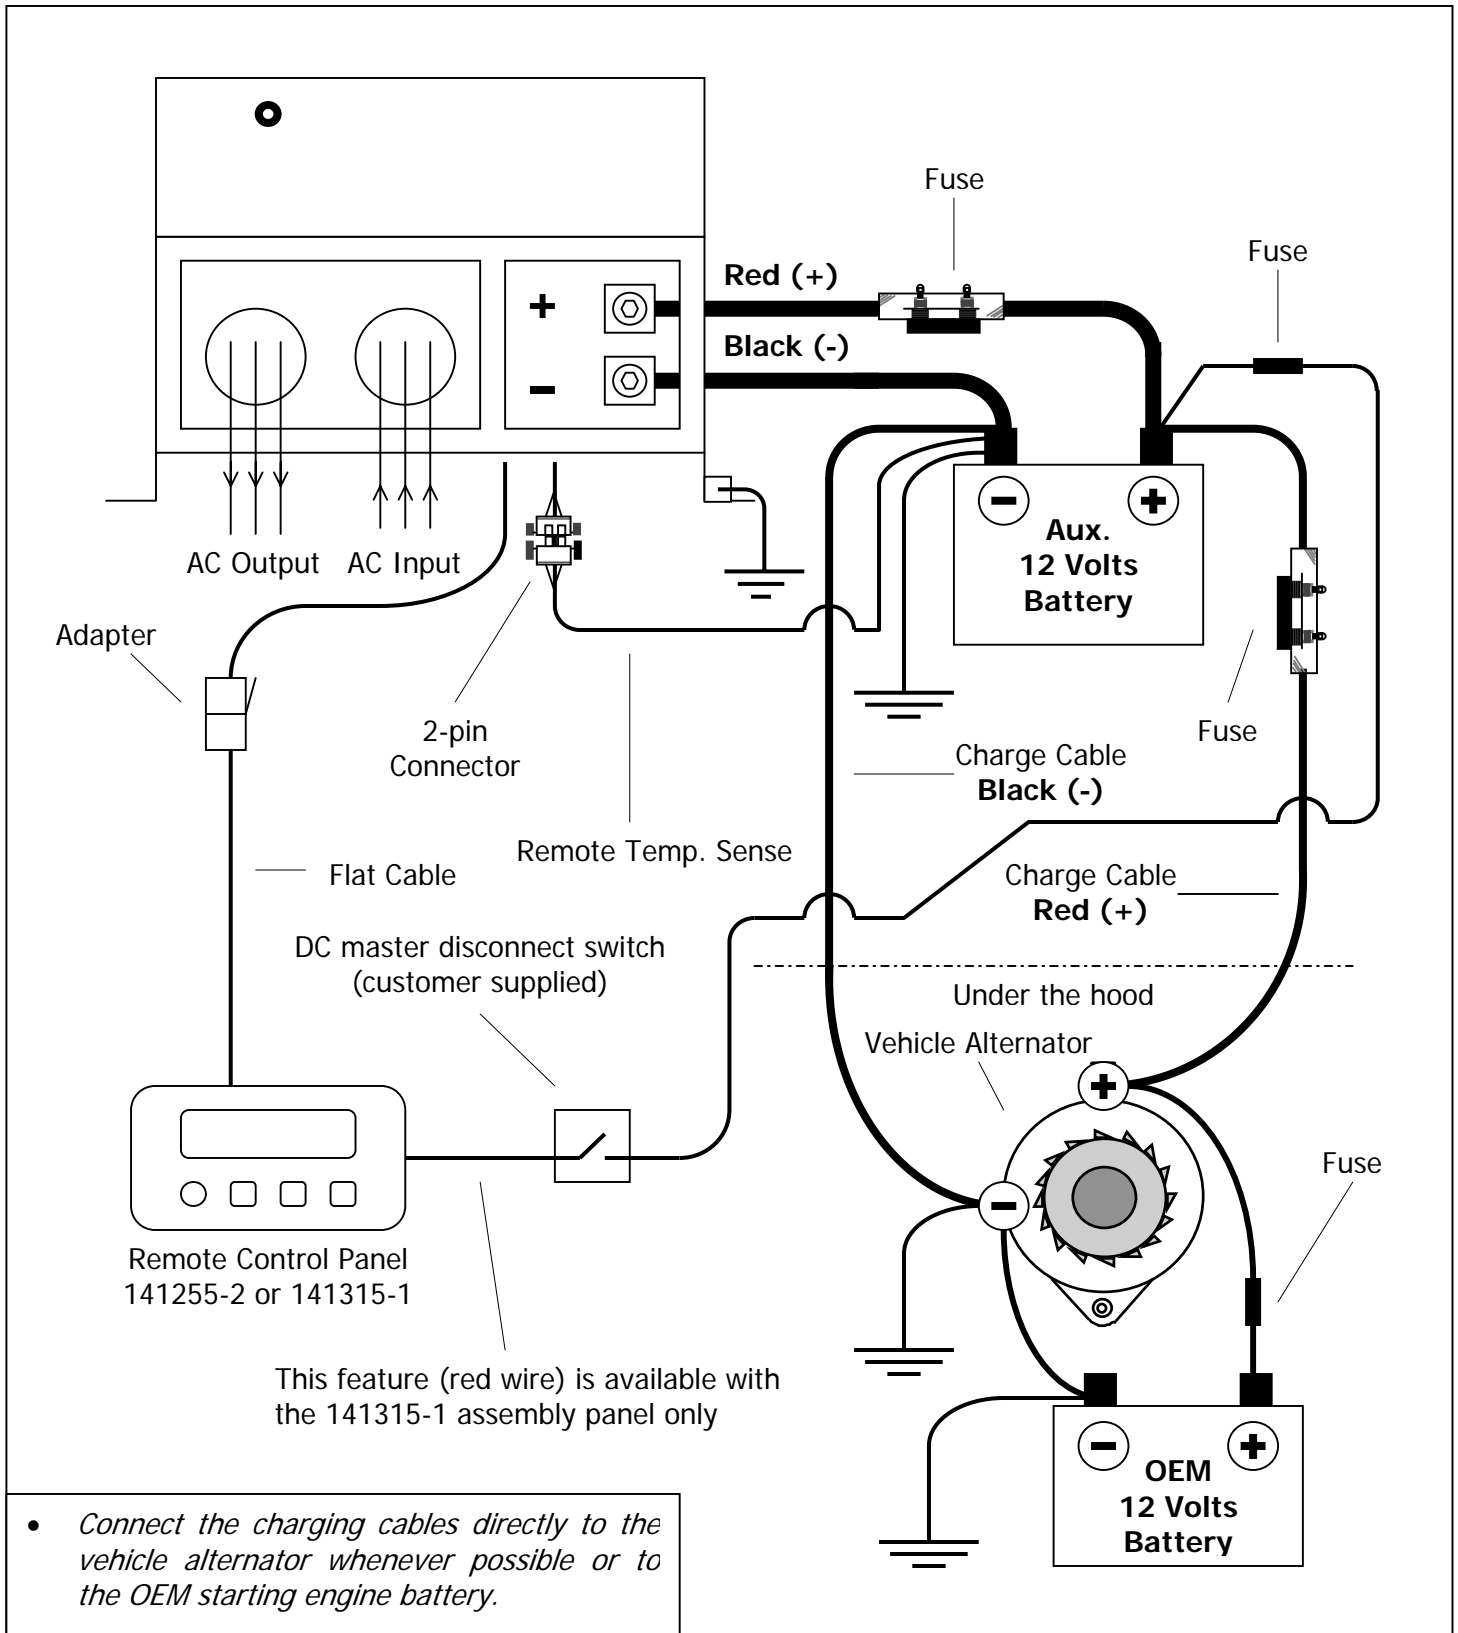

Figure 6: DC wiring diagram
**5.3.3 Connecting the LCD Remote Control/Status Panel:** Mount the panel last in a convenient, visible and accessible location. Connect the flat cable connector extending from the SPS module to the receptacle at the rear of the panel. 141315-1 assembly panels must connect the red wire extending from the back of the panel to the output of the DC master disconnect switch. See wiring connections on figure 6, page 14.
- Refer to Figure 6: DC wiring diagram.